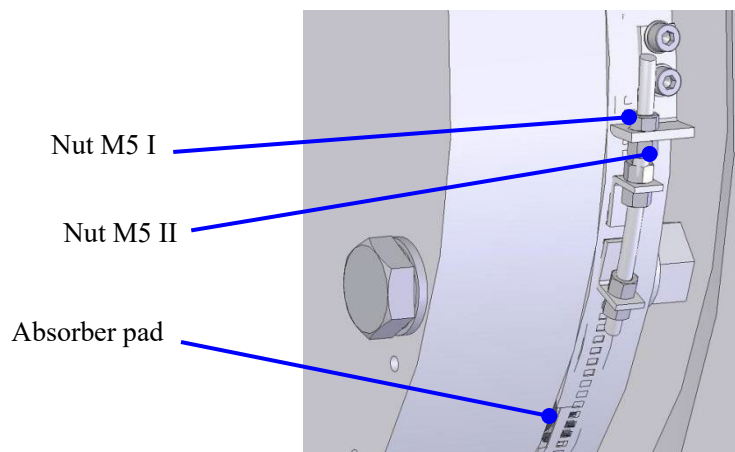

Figure 15 Brake Noise adjustment
1. Loosen the nut M5 II. See Figure 15.